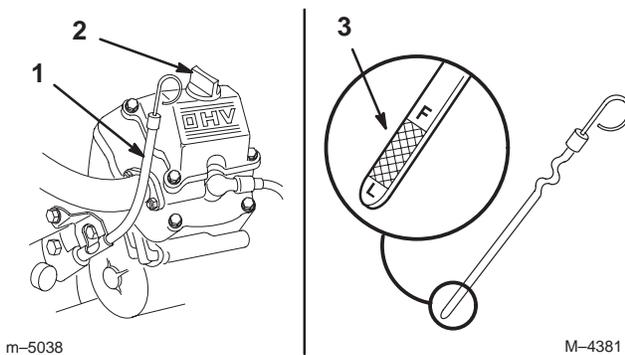

Figure 35
2. Clean around the oil dipstick so that dirt cannot fall into the filler hole and damage the engine (Fig. 35).
3. Pull the oil dipstick out and wipe the metal end clean (Fig. 35).
4. Slide the oil dipstick fully into the filler cap. Pull the dipstick out and look at the metal end (Fig. 35). If the oil level is low, slowly pour only enough oil into the filler tube to raise the level to the full mark.
5. Slowly pour approximately 80% of the specified oil, on page 30, into the filler cap (Fig. 35). Now check the oil level; refer to Checking Oil Level, page 31. Slowly add additional oil to bring it to the full mark.